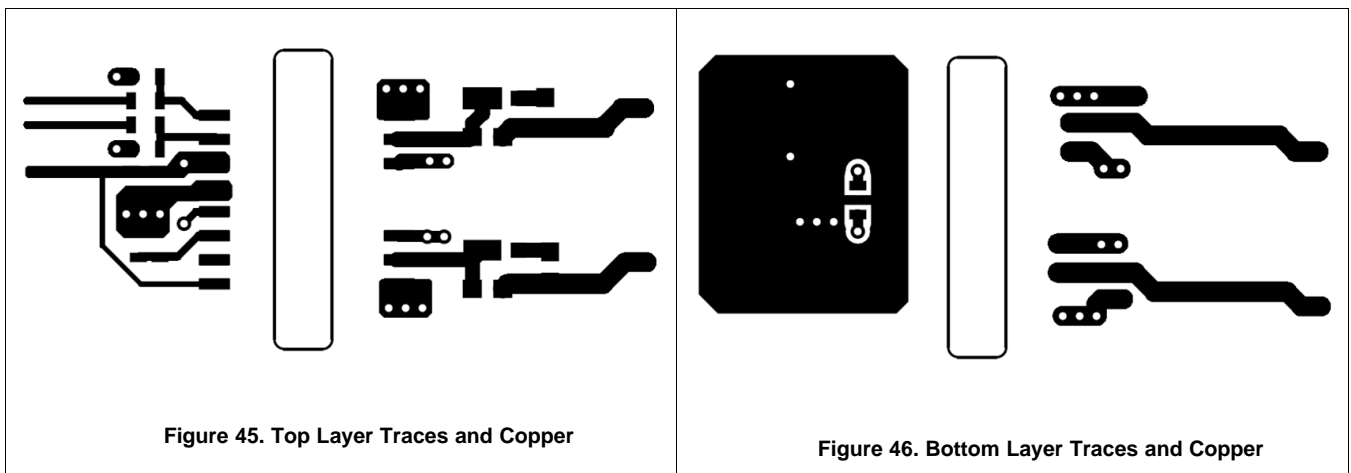
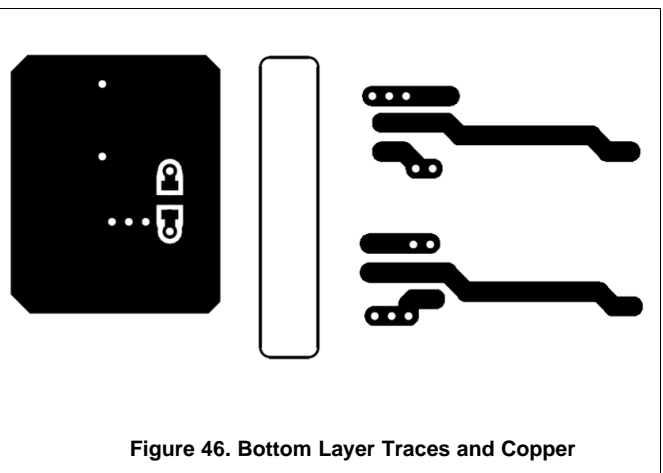

Figure 45. Top Layer Traces and Copper
Figure 46. Bottom Layer Traces and Copper
- Increasing the PCB copper connecting to VDDA, VDDB, VSSA and VSSB pins is recommended, with priority on maximizing the connection to VSSA and VSSB (see Figure 45 and Figure 46). However, high voltage PCB considerations mentioned above must be maintained.
Figure 45 and Figure 46 shows top and bottom layer traces and copper.